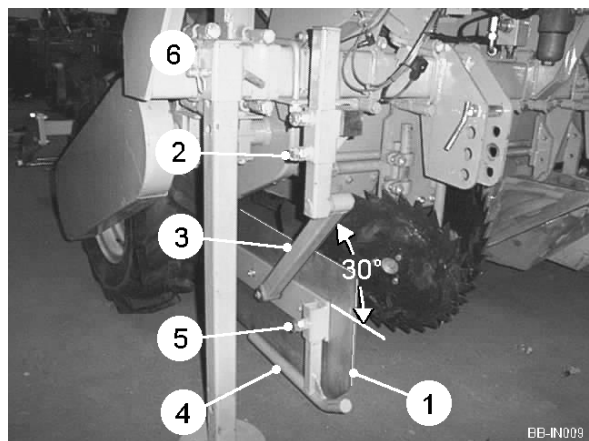
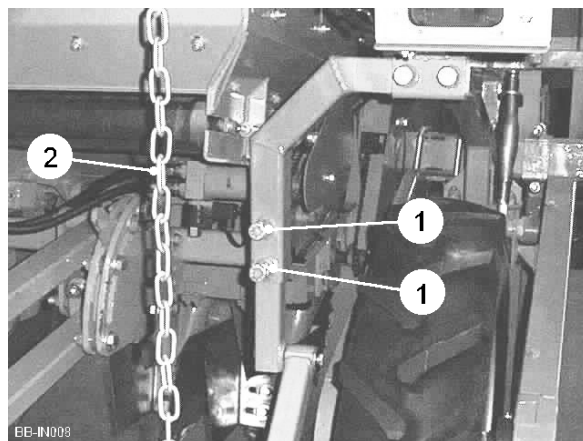

Fig 7
Fig 8
The soil retention panels (item 1, figure 7) prevent soil from flowing into the wheelings from the openers. Vertical adjustment is provided to allow the panels to be raised/lowered to match wheel height. To adjust the height loosen the front leg retaining screws (item 2, figure 7) and raise/lower the leg to the required position. Loosen the rear leg retaining screws (item 1, figure 8) and adjust the leg height so that the panel (item 1, figure 7) runs parallel with the ground. The angle at which the pivot arms (item 3, figure 7) operate should be approximately 30° from horizontal allowing the panels to ride the contours of the ground. The depth chains (item 2, figure 8) should be adjusted to allow the panels to float when in work but prevent them from dropping too low when the planter is lifted on the tractor linkage. The skids (item 4, figure 7) are fitted to assist the soil retention panels in riding over the ground. The skid should be set slightly below the bottom edge of the panel. To adjust loosen the retaining bolts (item 5, figure 7).